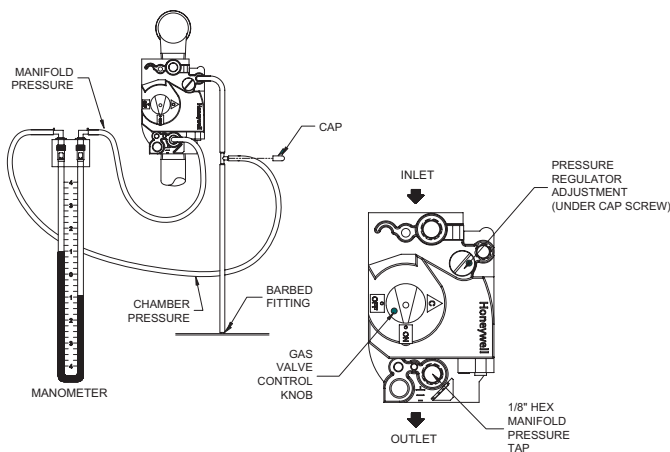

Figure 31 – Measuring Net Manifold Gas Pressure
4. Locate the reference hose on the second gas valve which goes from the vent fitting on the gas valve to a barbed fitting on the deck of the pool heater (see Figure 31).
6. Remove the 1/8" hex plug from the manifold pressure tap on the gas valve (see Figure 31). Retain plug for future use.
7. Install a fitting in this tap that is suitable for connection of a hose to a manometer, or (+) side of a magnahelic gauge (see Figure 31).
\* Net Manifold Pressure equals the measured manifold pressure minus the chamber pressure. See Figure 31 to measure the Net Manifold Pressure.